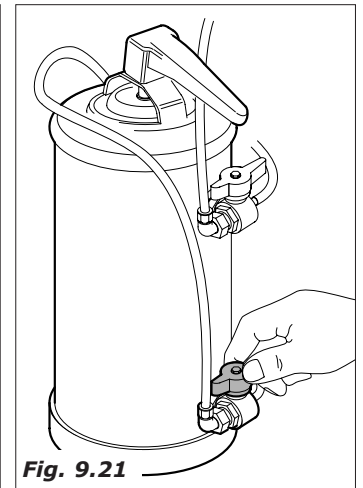

Fig. 9.21
- switch on the machine and let the water pour out until it is no longer salty. (*Fig. 9.21*).